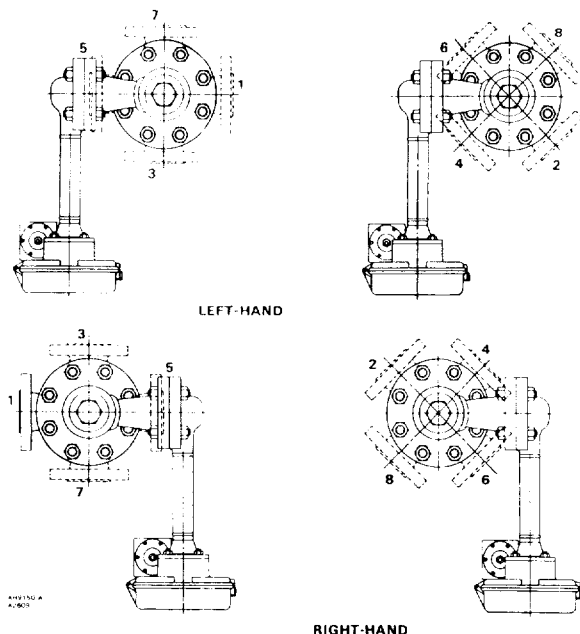

Figure 6. Cage Head Mounting Positions
The cage head on all of the following constructions except the Type 259B may be rotated to any of the eight alternate positions shown in figure 6. Connection sizes are either 1-1/2" or 2"; see the "Parts List" section for specific sizes by construction, standard displacer lengths, and standard construction materials.
Except on the Type 259B, the cage head (key 2) may be mounted so that the torque tube arm (key 3) is in any one of eight alternate positions around the cage as shown in figure 6. Neither the displacer nor the torque tube arm need be removed when head position is changed. Remove the hex nuts (key 22, or key 20 for a Class 125 Type 249) from the bolting (key 21), and reposition the head as desired.
Be sure that the driver bearing will be installed so that its knife edge is pointing up when the torque tube arm is mounted in the desired orientation (figure 6). Since changing the mounting position of the torque tube arm by